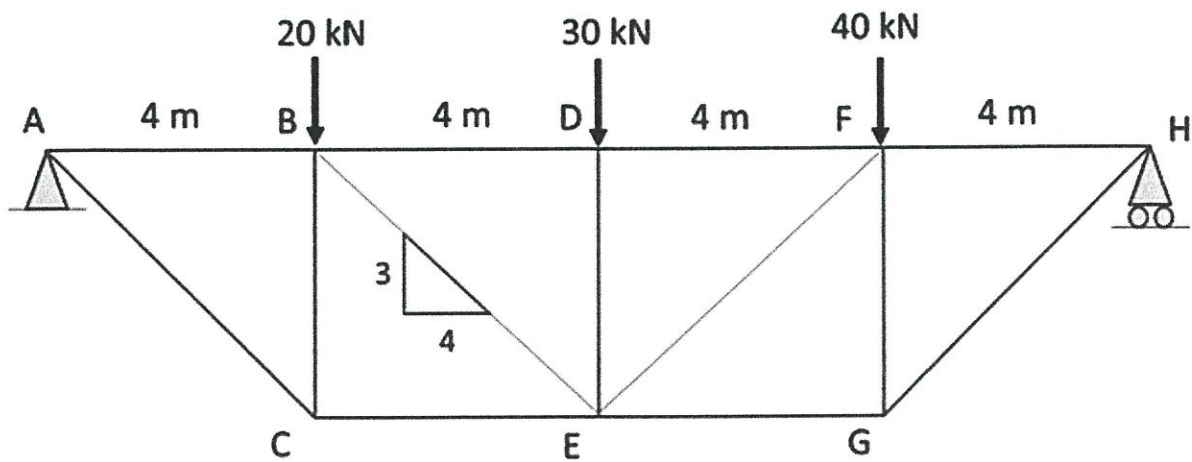

Figure Q5: A Plane Truss
- Q5** A plane truss as shown in **Figure Q5** in **Appendix III** is supported with pin and roller at point A and H respectively. The point loads imposed are 20 kN at point B, 30 kN at point D, and 40 kN at point F.